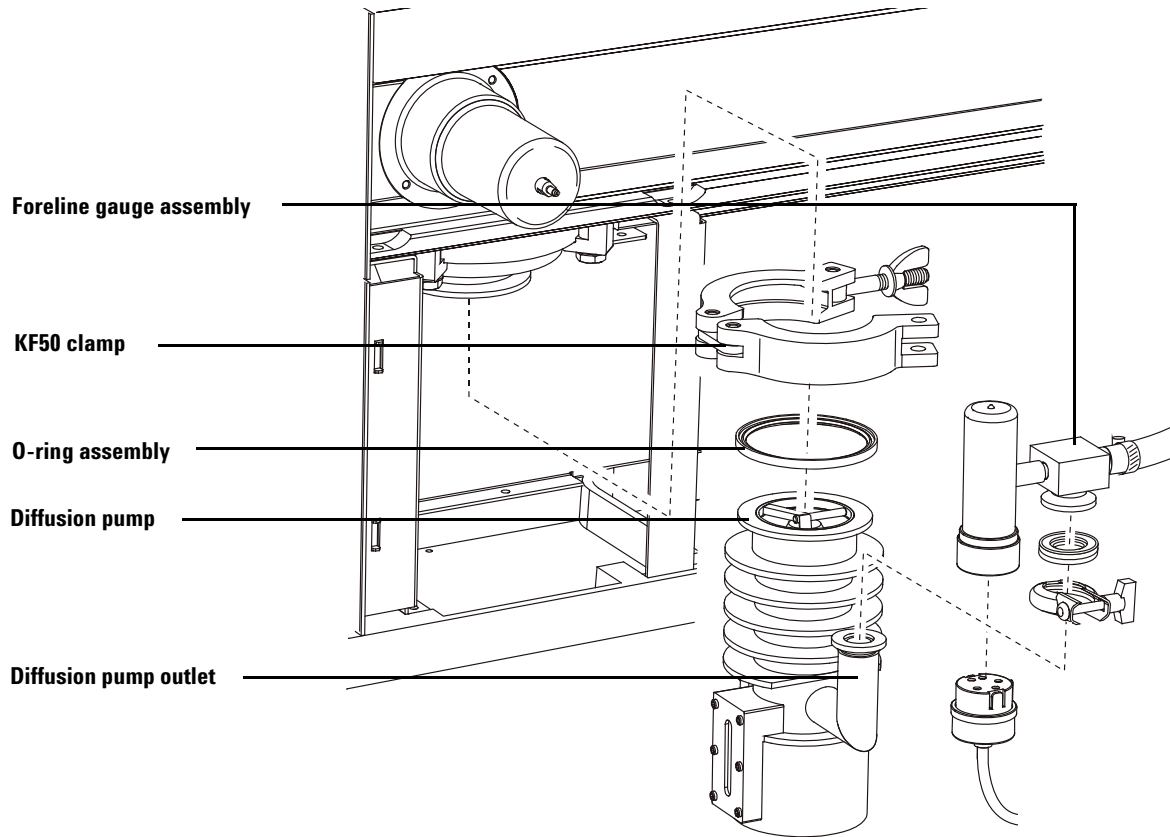

Figure 19 Reinstalling the diffusion pump
- 3** Install the O-ring assembly on the diffusion pump. See Figure 19.